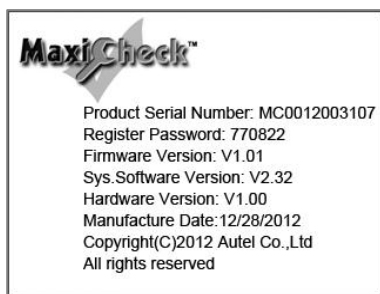

Figure 3.6
- 2) View tool information on screen. (Figure 3.6) Press the **ESC** button to exit.